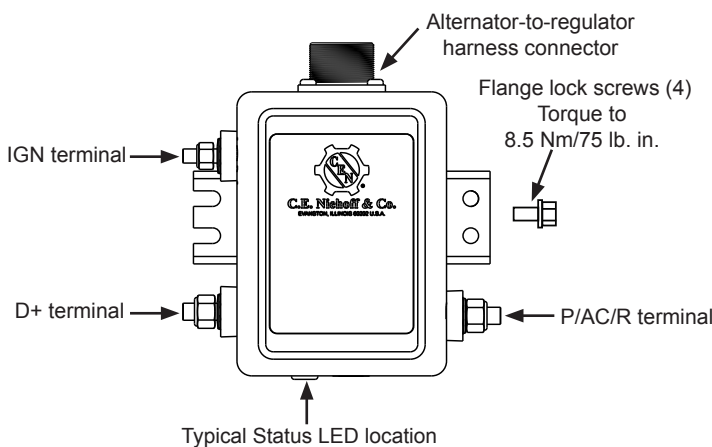

Figure 5: Typical Conventional Voltage Regulator Connections
4. Plug alternator-to-regulator harness into 6-pin receptacle on regulator. See Figures 5 and 6 for receptacle location.
5. Connect regulator terminals as required by vehicle. Refer to Figures 5 and 6 below: